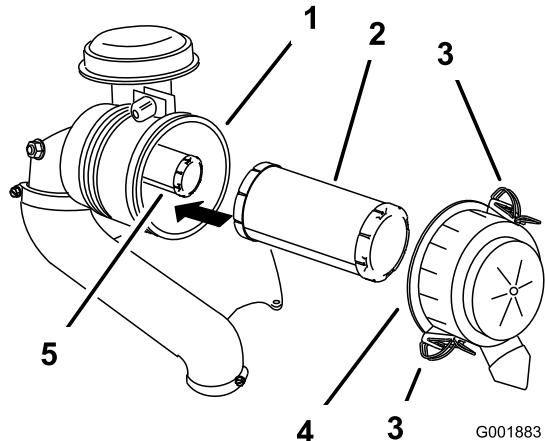

Figure 30
3. Release the latches on the air cleaner and pull the air-cleaner cover off the air-cleaner body (Figure 30).
5. Gently slide the primary filter out of the air-cleaner body (Figure 30).
2. If you are replacing the safety filter, carefully slide it into the filter body (Figure 30).
3. Carefully slide the primary filter over the safety filter (Figure 30).
4. Install the air-cleaner cover with the side indicated as up facing upward and secure the latches (Figure 30).